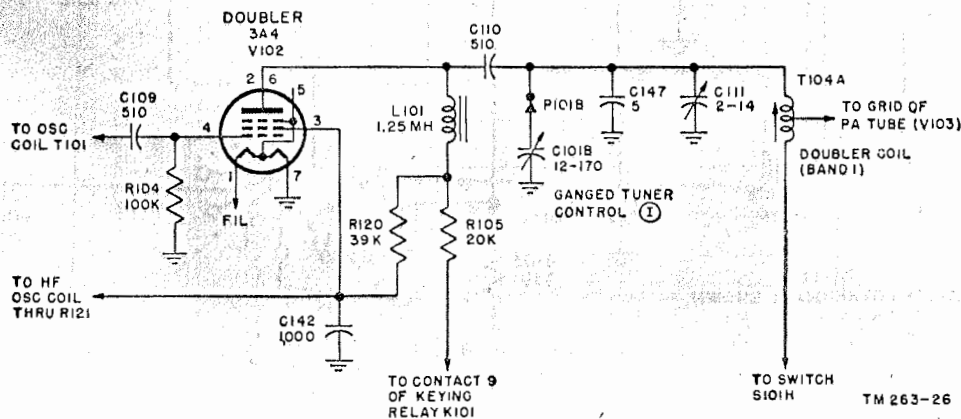

Figure 72. Frequency doubler stage V102, simplified schematic.
d. Capacitor C129, which connects from the tube plate to the crystal, is used to provide degenerative feedback from the plate circuit to the crystal. This circuit allows crystals of a wide range of activities to be used. The plate circuit is tuned to the crystal frequency desired by capacitor C101A, control ③.
e. Tube V101 is in operation only when the key is depressed or the press-to-talk switch on the microphone is pushed. This is so because V101 derives its plate and screen voltage through keying relay K101 and the relay is actuated only when the microphone or key is in use. Tube V101 also operates on the NET position of control ④, regardless of the position of relay K101.
94. Frequency Doubler V102, Tube Type 3A4 (fig. 72)
94. Frequency Do (fig. 72)